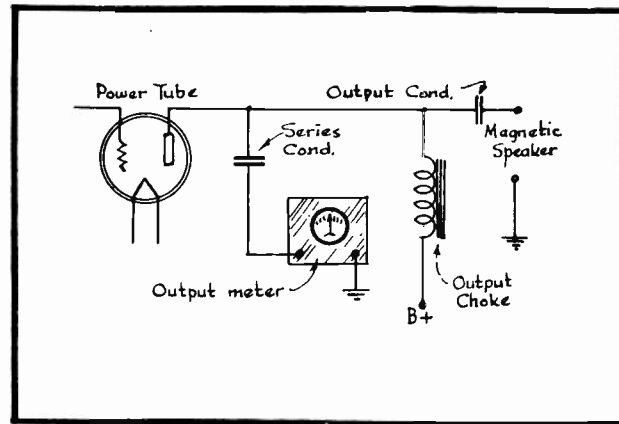

Fig. 3
1. - IF A MAGNETIC SPEAKER IS BEING USED WITH A RECEIVER AND THE CIRCUIT ARRANGEMENT IS SUCH AS ILLUSTRATED IN FIG. 3, THEN THE OUTPUT METER CONNECTION AS ALSO SHOWN IN THIS SAME DIAGRAM CAN BE USED.